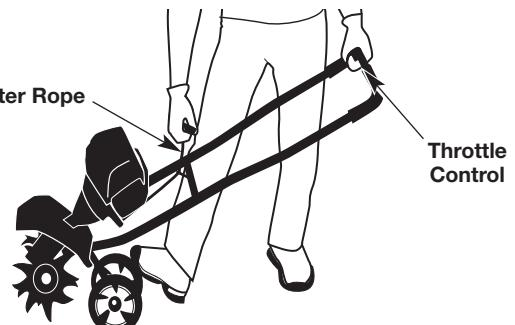

Fig. 6
**WARNING:** Avoid accidental starting. Make sure you are in the starting position when pulling the starter rope (Fig. 6). To avoid serious injury, the operator and unit must be in a stable position while starting.
5. Stand in the starting position (Fig. 6). Hold the handlebar and squeeze the throttle control with one hand. Hold the starter rope with the other hand. Use one foot to hold the wheels in place.
- NOTE:** Always tilt the unit back slightly to bring the tines off the ground when starting the unit (Fig. 6).